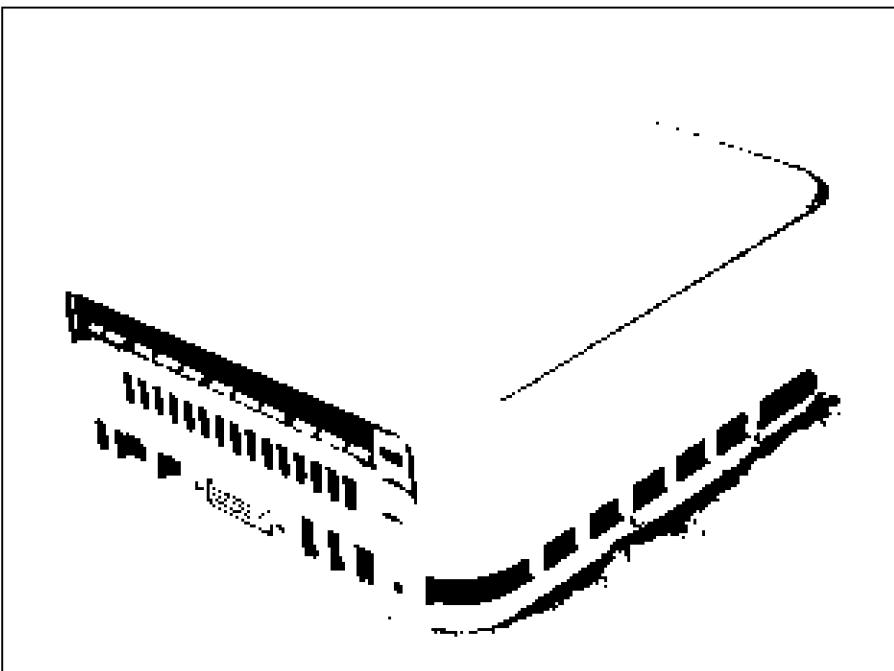

Figure 4-7:
2. **Align the plastic tabs so that they'll slip inside the outer casing as you move it down, as shown in Figure 4-7.**
3. **Align the metal tab above the right side of the port panel, also visible in Figure 4-7, so that it isn't forced to the outside of the mini.**
These metal tabs are visible in Figure 4-7. The danger here is that these metal tabs can easily bend outward as you press the casing down. If this happens, use a small pair of pliers to bend the tabs back.